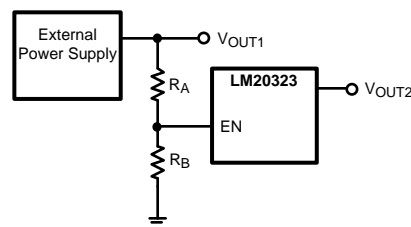

Figure 27. Sequencing LM20323 with Precision Enable
The precision enable (EN) and power good (PGOOD) pins of the LM20323 can be used to address many sequencing requirements. The turn-on of the LM20323 can be controlled with the precision enable pin by using two external resistors as shown in Figure 27.